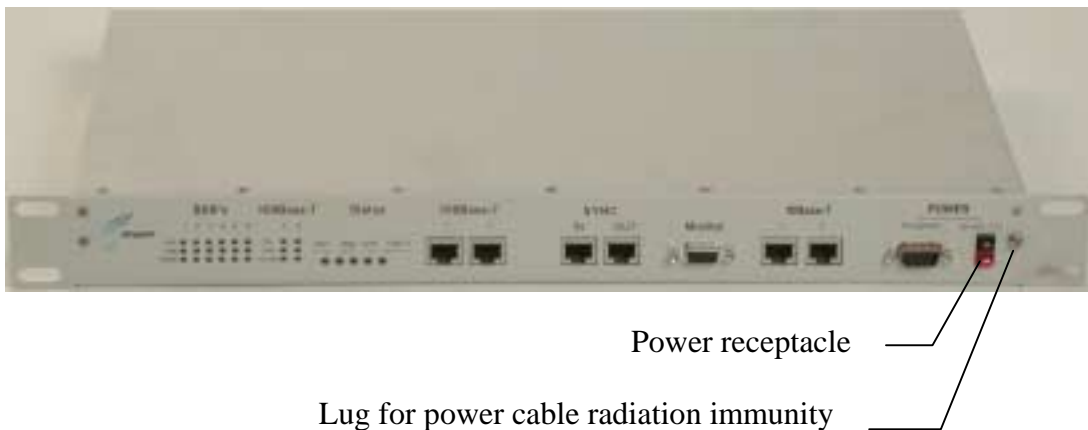

Figure 5-12: BSDU front panel with power port and screw attachment for power radiation immunity
2. Connect the power cable's yellow/green lug wire, for radiation immunity, to the BSDU chassis by using the screw attachment located alongside the BSDU's power receptacle, as displayed in Figure 5-12.